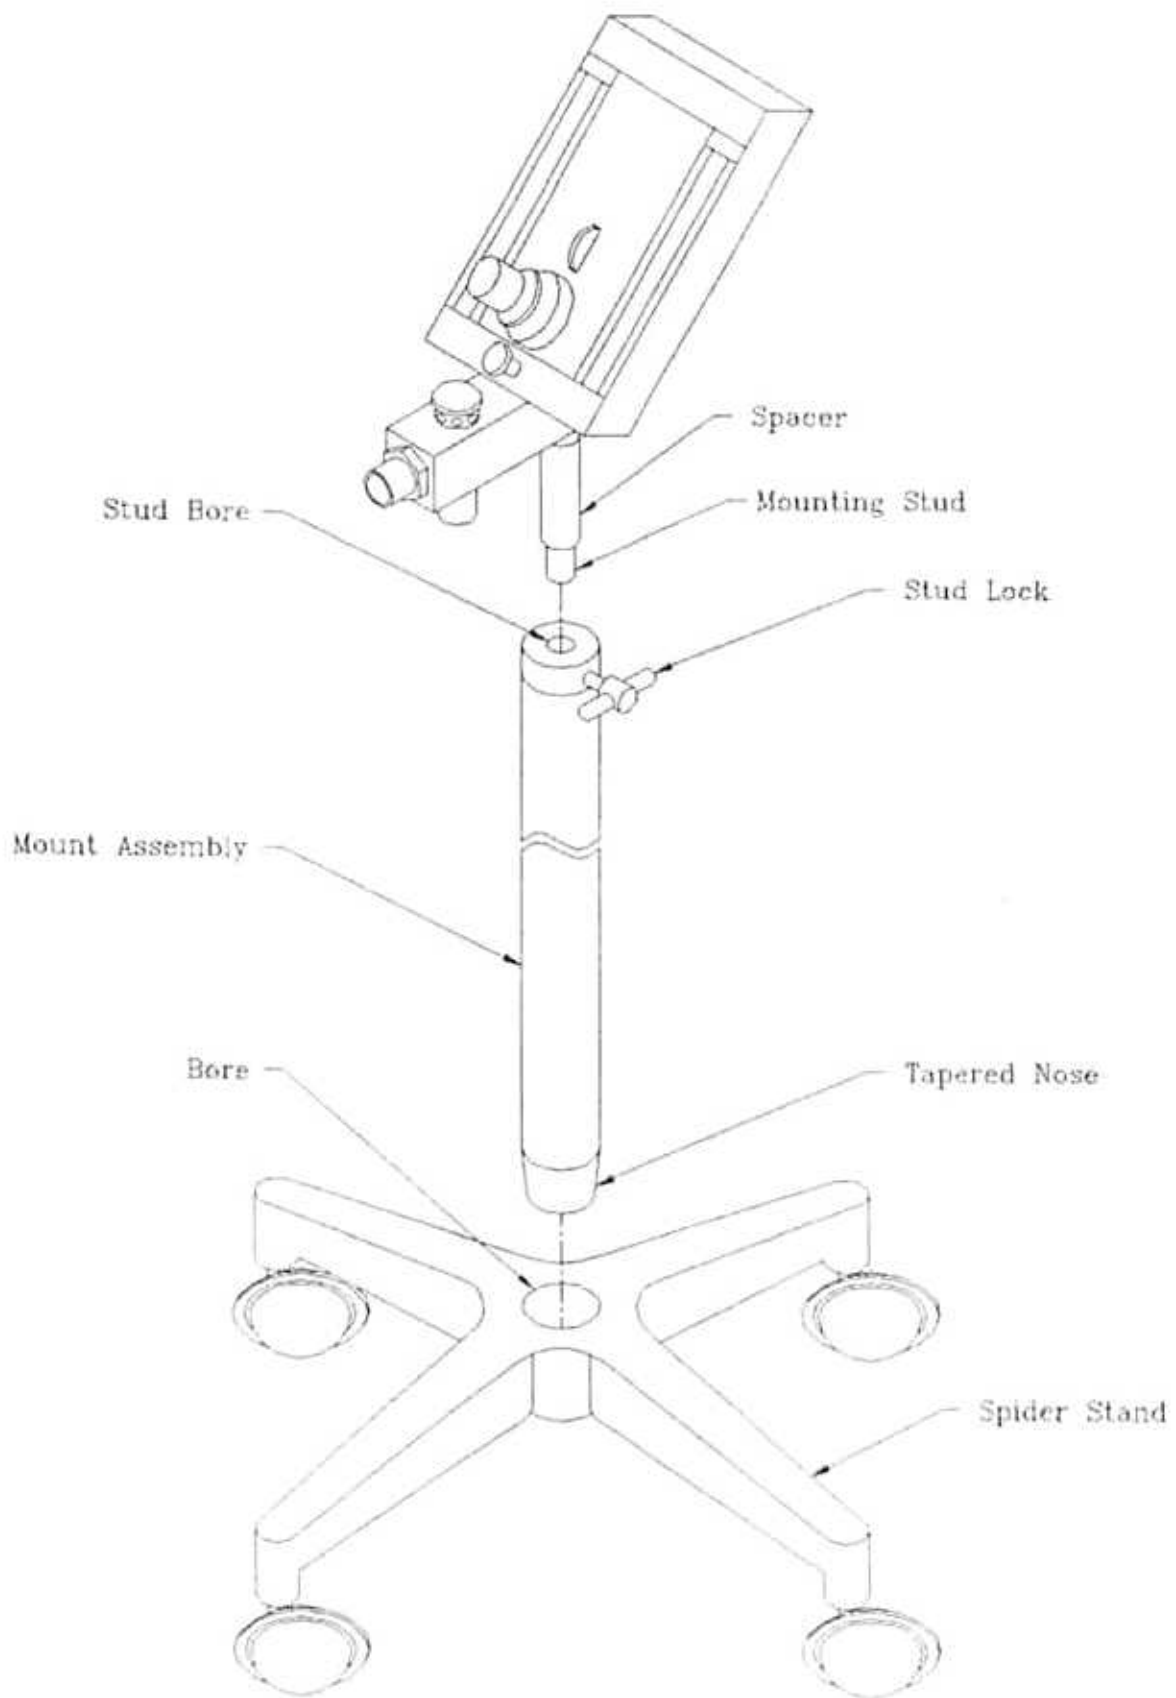

Figure 12
- D. Slide the tapered nose of the pole mount assembly into the bore of spider stand until it comes to a stop. (See fig 12).
- E. Slide mounting stud through post spacer (if supplied) and into stud bore of pole mounting stud. When the head is at the desired working height, rotate the stud lock clockwise until it locks the stud. (See fig 12).
- A. Assemble mobile stand unit as outlined in Figure 12.